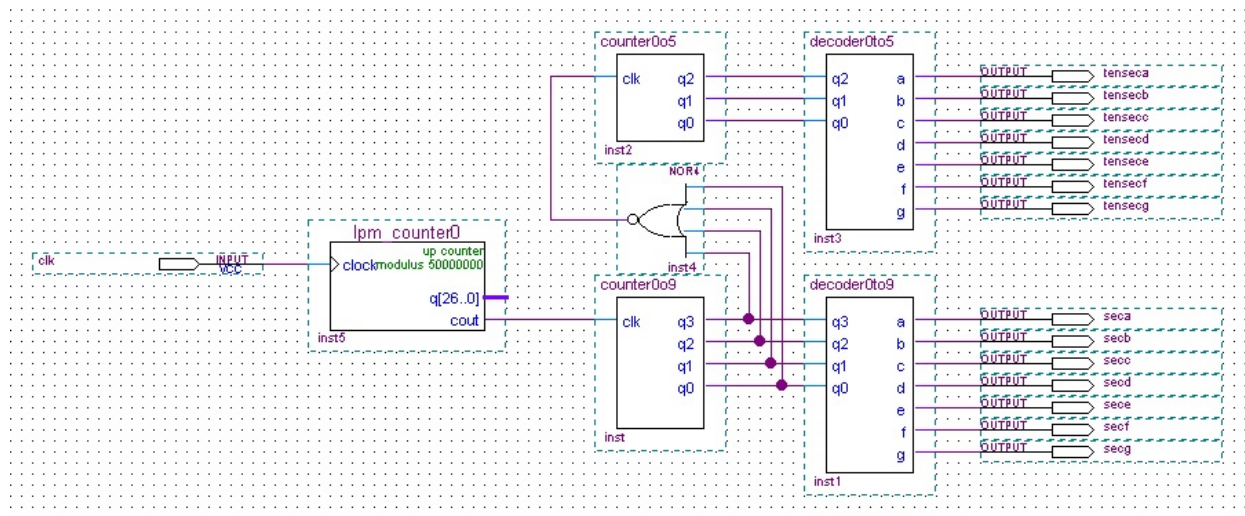

Figure 6.10 Circuit with *lpm_counter*
- Complete the circuit with *lpm_counter* as shown in Figure 6.10. Click **File > Save**.